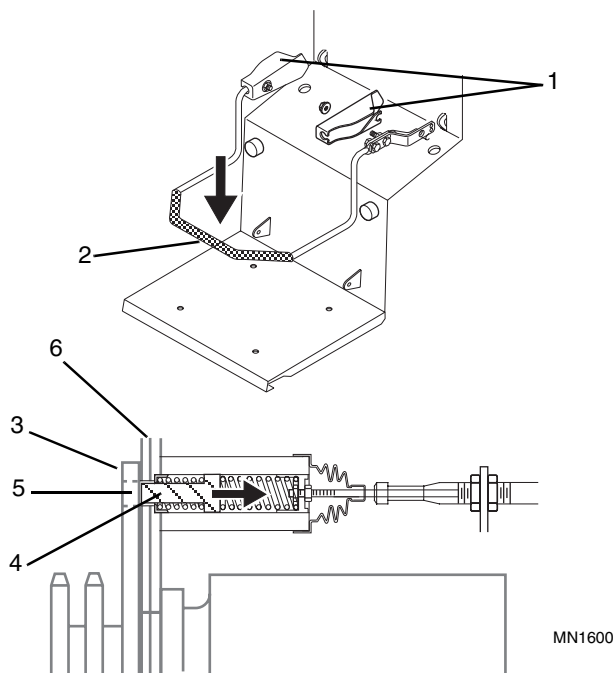
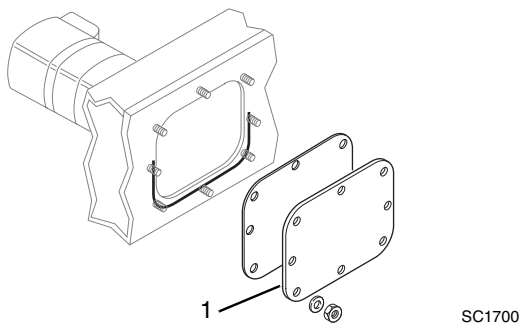

Figure 9-36 Park Lock - Disengaged
Figure 9-37 Access Cover Installation
17. Reconnect both park lock cables and check the adjustment of both park lock pins. With the seat restraint covers (Fig. 9-36, 1) still removed, lower the seat bar (2).
18. Remove both side chain case access covers (Fig. 9-37, 1) to gain access to the drive sprocket (Fig. 9-36, 3) and the end of the park lock pin (4).
19. Inspect to see that both pins (Fig. 9-36, 4) have fully retracted from the hole (5) in drive sprocket (3) and should be flush with the edge of the chaincase wall (6).